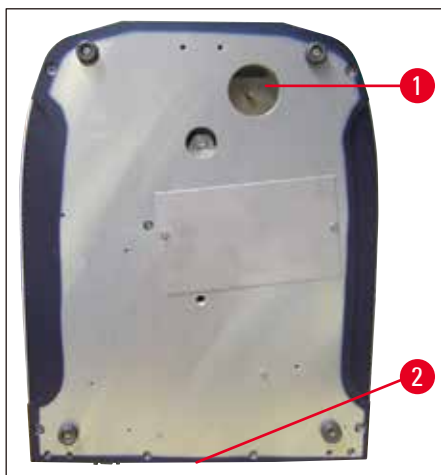

Fig. 7
- Bottom of the instrument (→ Fig. 7).
- Connect the drain tube (→ Fig. 7) to the bottom of the instrument (→ Fig. 7-1).